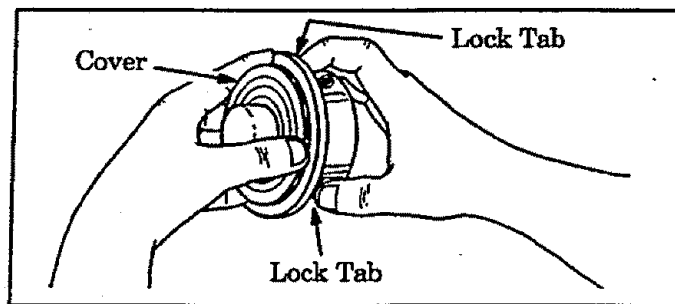

Figure 13
- a. Hold the Trimmer Head as shown in Figure 13 . Press the two Lock Tabs and remove the cover. Figure 13 .